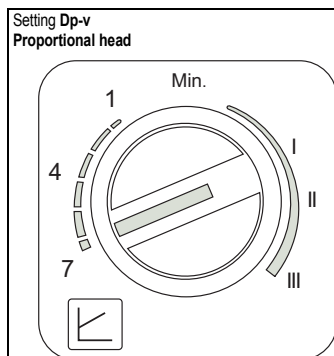

fig. 17
**- Setting Dp-v Proportional head (fig. 17)**